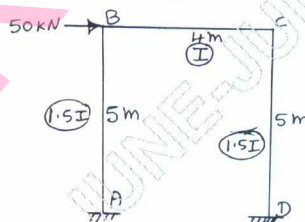

Fig.Q4
- 4 Analyze the portal frame as shown in Fig.Q4 by moment distribution method and also determine its bending moment diagram.